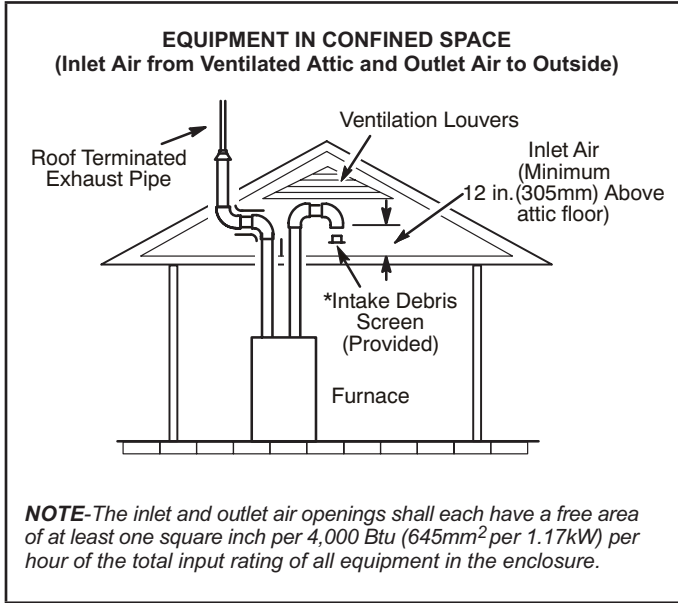
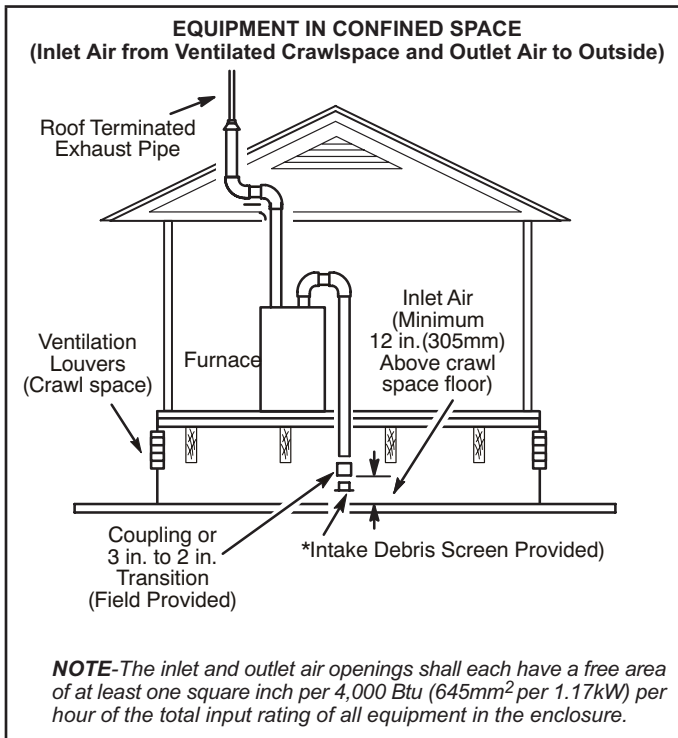

FIGURE 31
FIGURE 32
- 2 - If intake air is drawn from a ventilated attic (FIGURE 31) or ventilated crawlspace (FIGURE 32) the exhaust vent length must not exceed those listed in TABLE 6. If 3" diameter pipe is used, reduce to 2" diameter pipe at the termination point to accommodate the debris screen.